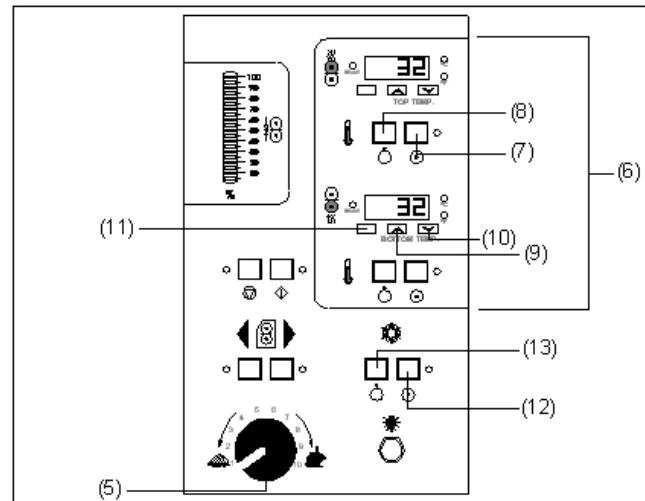

Fig 8
For items 5 -13, refer to Figure 8.